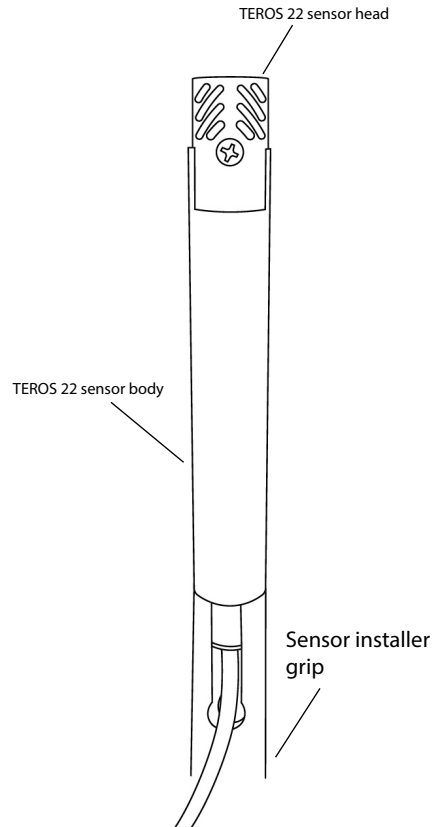

Figure 5 TEROS 22 place in insertion tool
2. Place the cable end of the sensor into the slotted end of the insertion tool and run the cable up to the handle as seen in Figure 5.